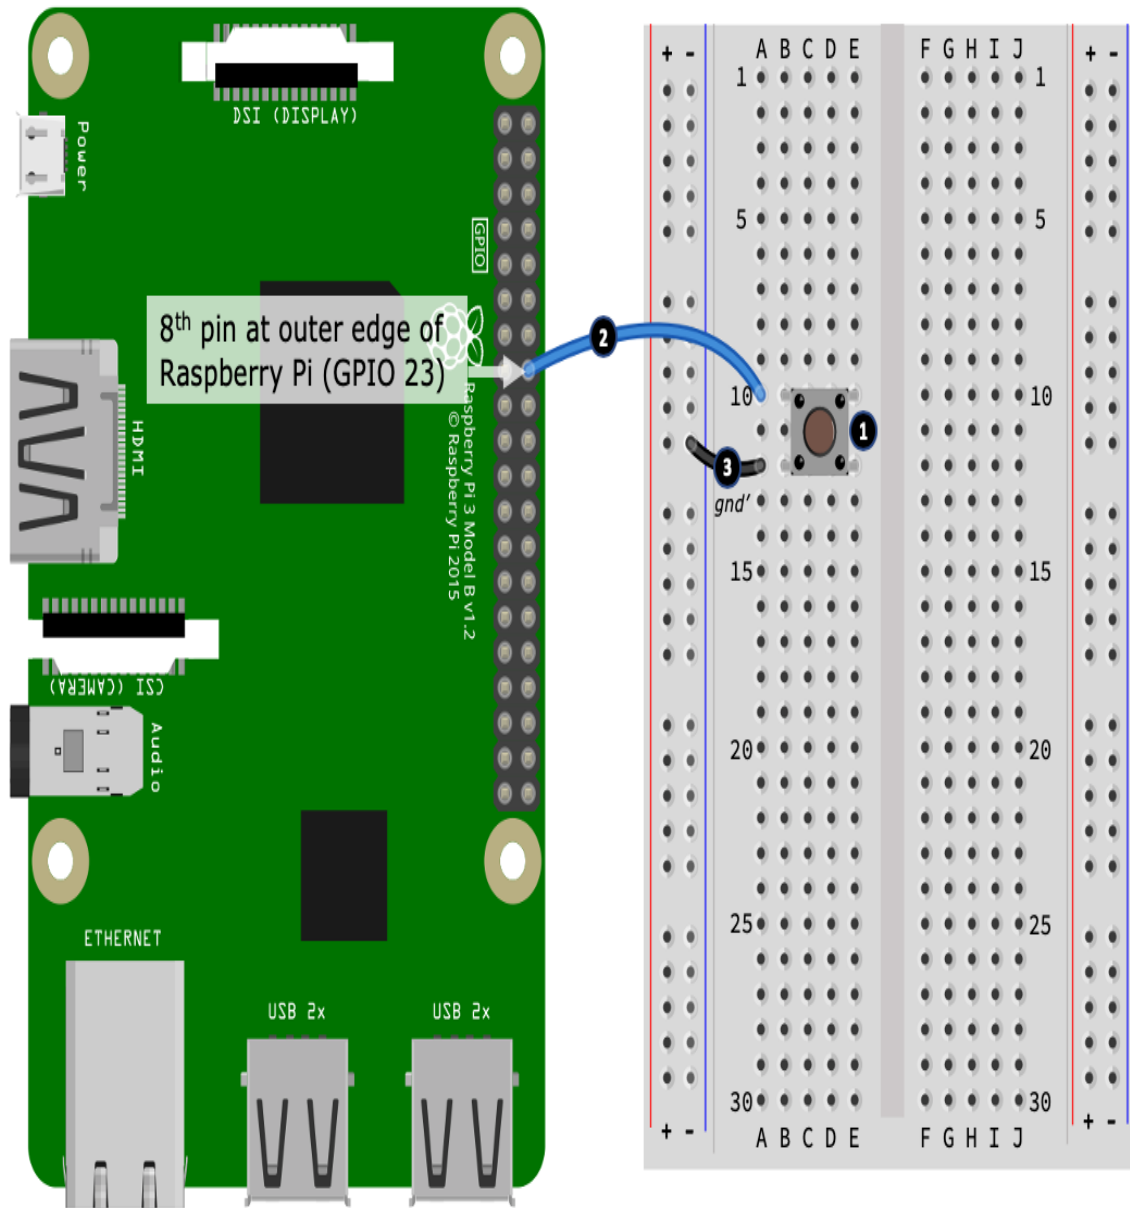

Figure 2.3 – Connecting the push button
*Figure 2.3* illustrates the push button connection we need to create on our breadboard. Please refer to this as you follow the forthcoming steps:
Here is how to connect the push button into your breadboard and connect it to your Raspberry Pi. The following step numbers match the numbered black circles in *Figure 2.3*:
1. Position the button on the breadboard as shown. It does not matter exactly which row of holes the button goes into, however, *Figure 2.3* shows the button positioned (top-left leg) at hole B10.